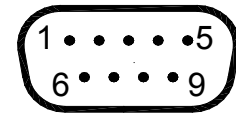

Figure 7. J1 Input Connector
| FIGURE 7. J1 INPUT CONNECTOR | 7 |
1. Make input connections according to Figure 7 and 9 or 10 (whichever is appropriate).